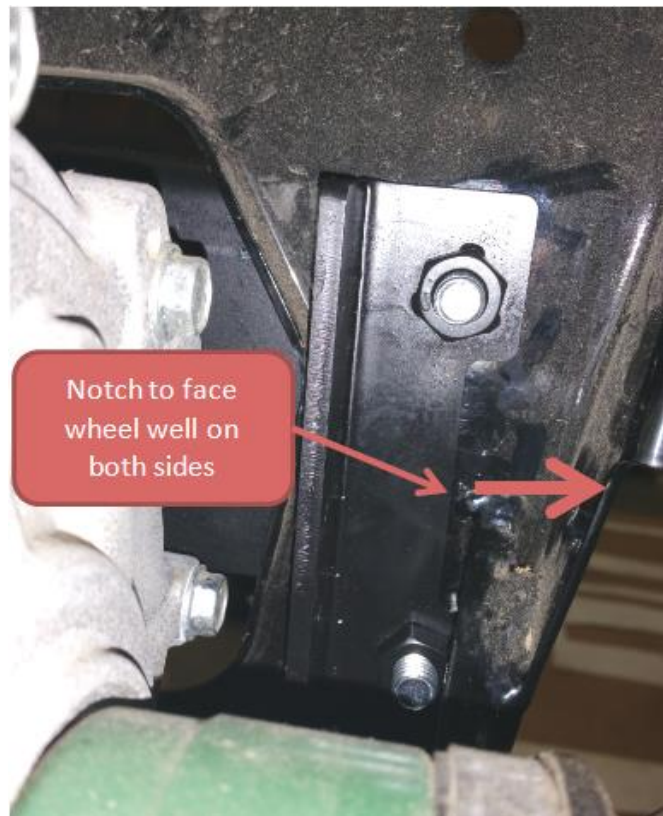

Figure 3
3. Place the Rear Support Brackets behind the front frame rails so that the notches in the Rear Support Brackets face toward the outside of the vehicle as shown in the Winch Mount Assembly View and Figure 3. Use the 3/8"x1" bolts to secure the Winch Mount Base Plate to the Rear Support Brackets.